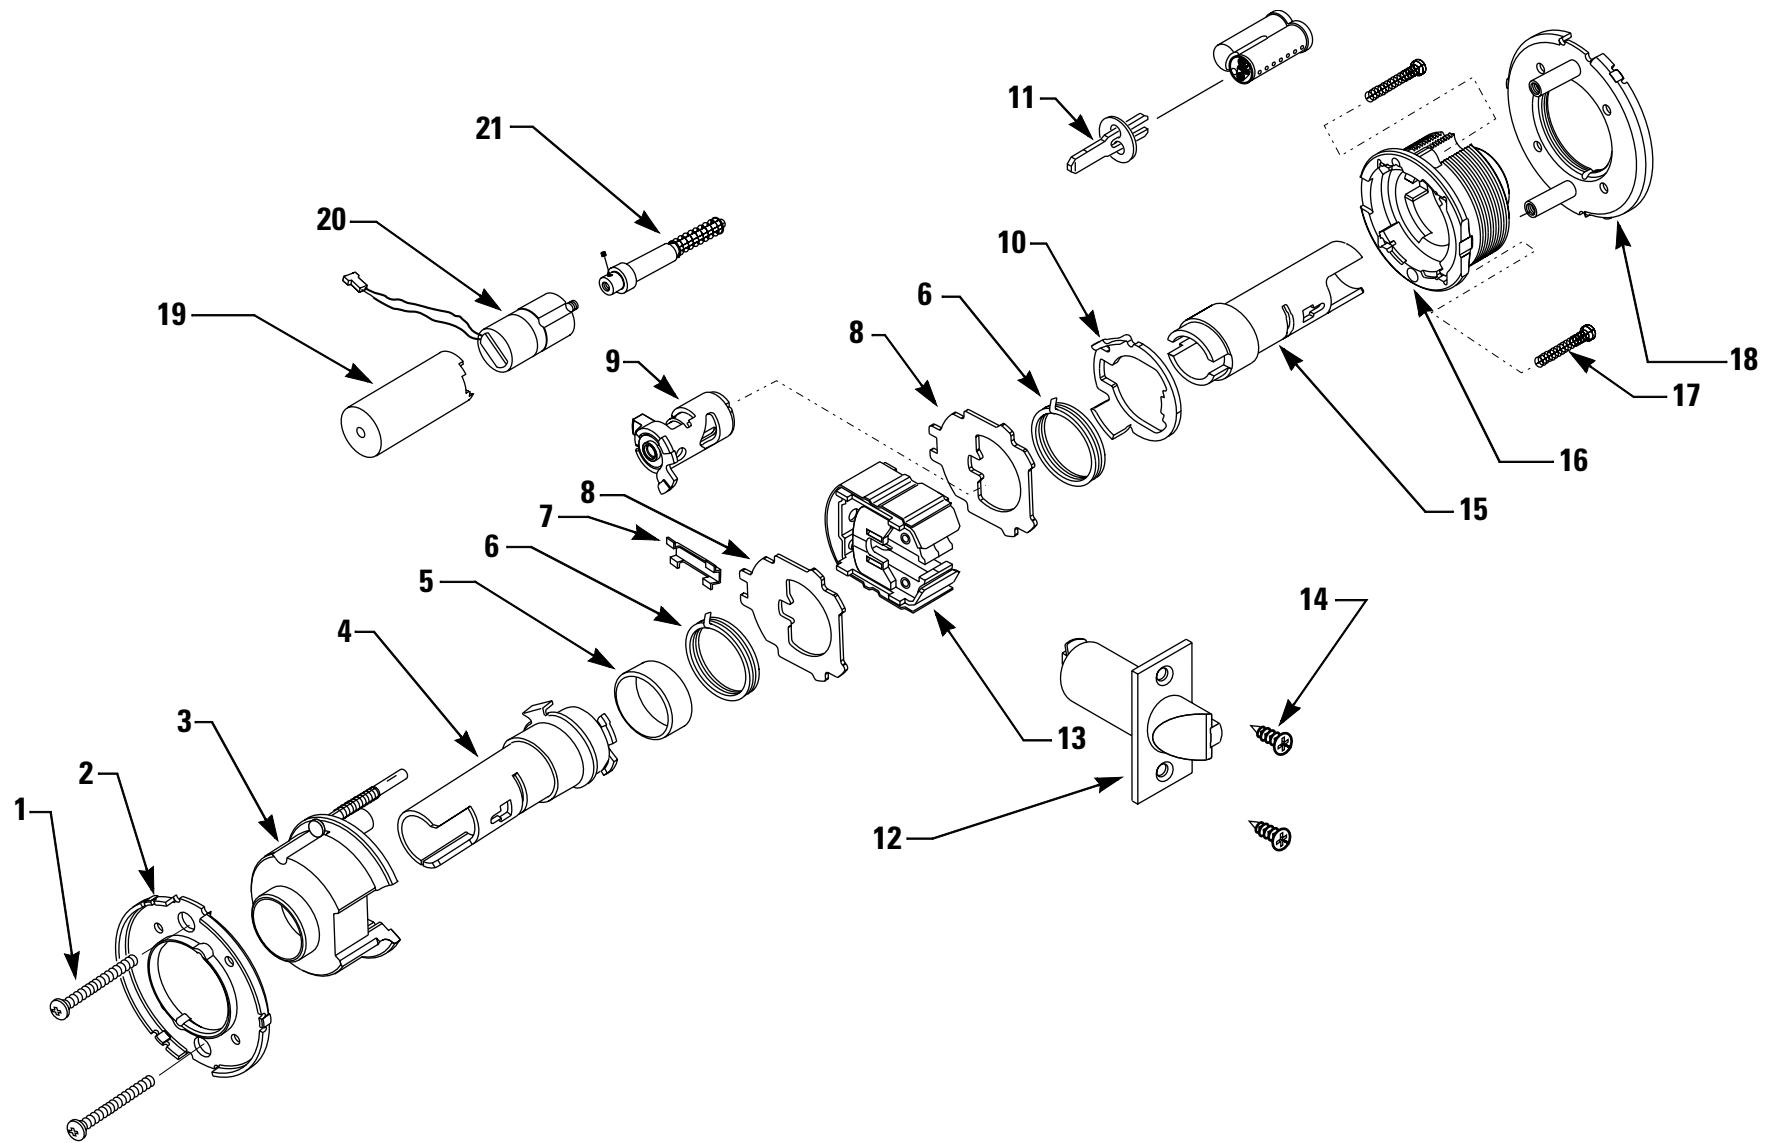

Figure 2.4 8KV/9KV chassis exploded diagram
b. For 8KV/9KV chassis parts, see Figure 2.4.
list** Refer to Figure 2.4 and the table below to find the part you need.